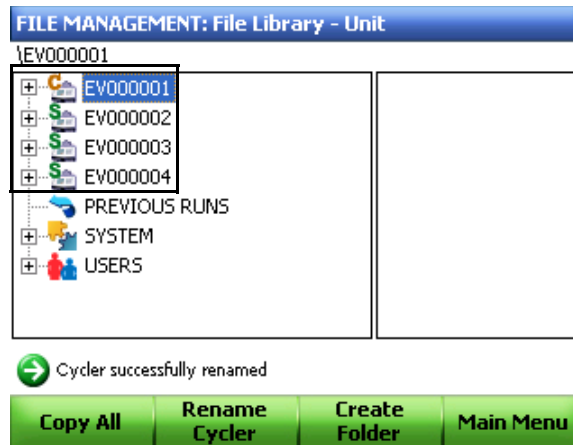

Figure 18. Three S1000 thermal cyclers are connected to the C1000 thermal cyclers.
- Attached folders (optional) — contain the data on attached USB keys or S1000 thermal cyclers. Figure 18 shows three connected S1000 thermal cyclers